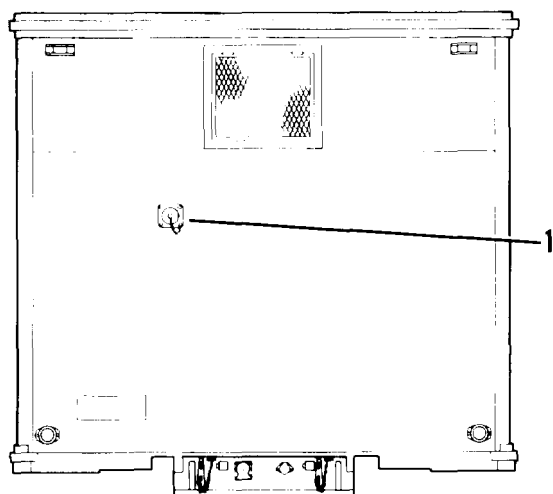

Figure 2-3. 110 volt external receptacle
a. Used for connecting an external 110-volt AC electrical supply to semitrailer (1, figure 2-3).